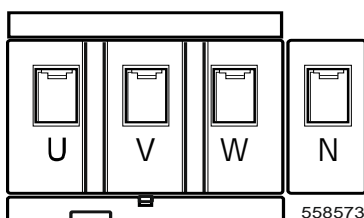
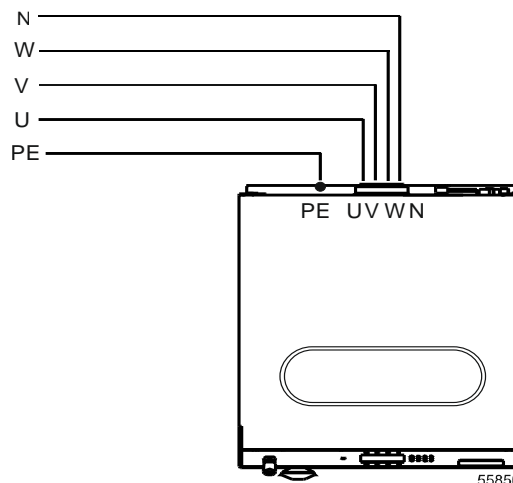

Figure 27 – Electrical connection terminal block
Figure 28 – Models outside of North America with three - phase connection
- Connect the electrical service's wires to the machine's electrical connection terminal as follows. Refer to Figure 28 for wiring connection details and to Figure 27 for electrical connection terminal details.